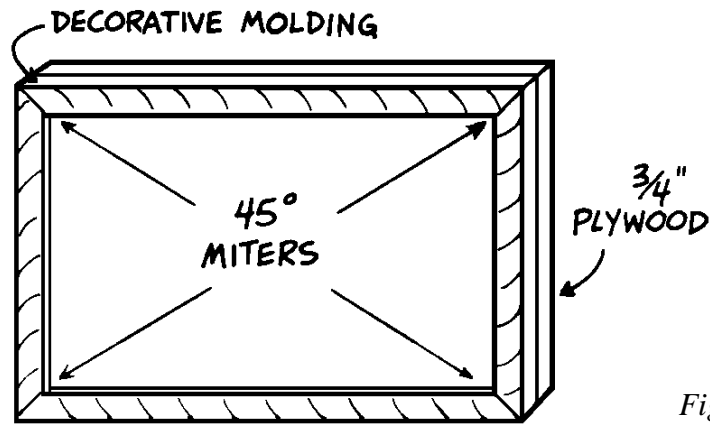

Figure 1
3. Use a pencil to mark the outer perimeter of the scrap wood onto the plywood. To form the plywood base (A) of the project, carefully cut out the marked rectangle.
4. Cut four pieces of  $\frac{3}{4}$ -wide decorative molding to fit exactly around the perimeter of the upper face of the base (A), mitering the corners of the molding as shown in *Figure 1*. Check to see that the tiled design will fit exactly inside the decorative molding that you have cut—now is the time to make any necessary adjustments.
5. Glue the mitered decorative molding to the upper face of the base (A) and secure it with small wire brads. Use a tack tamer to insert the brads and recess them into the molding with a nail set.